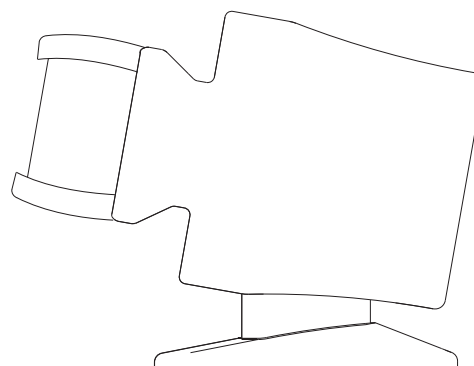
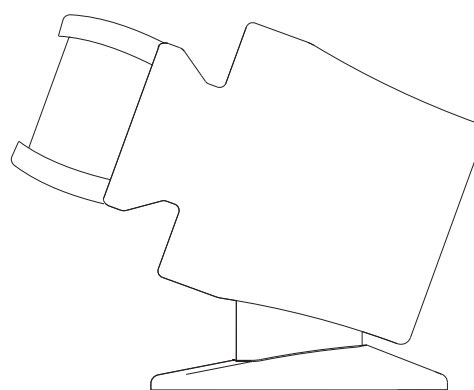

Figure 13
Figure 14
3. Rotate the Loudspeaker so the center axis of the Loudspeaker is pointed toward ear level when seated in the main viewing/listening area. Figure 13 illustrates a fifteen degree angle and figure 14 is a thirty degree angle.